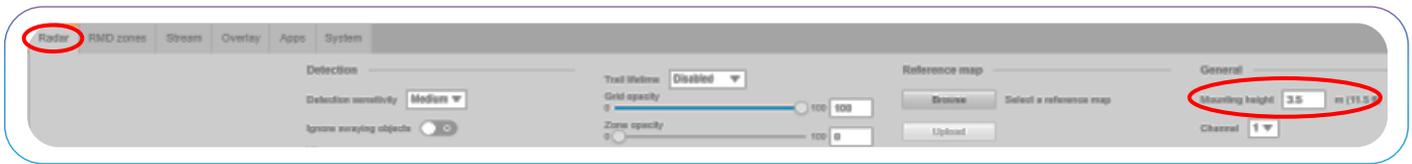

Figure 9. Main Page – Radar Tab
- On the Main page, click the **Radar** tab (Figure 9).